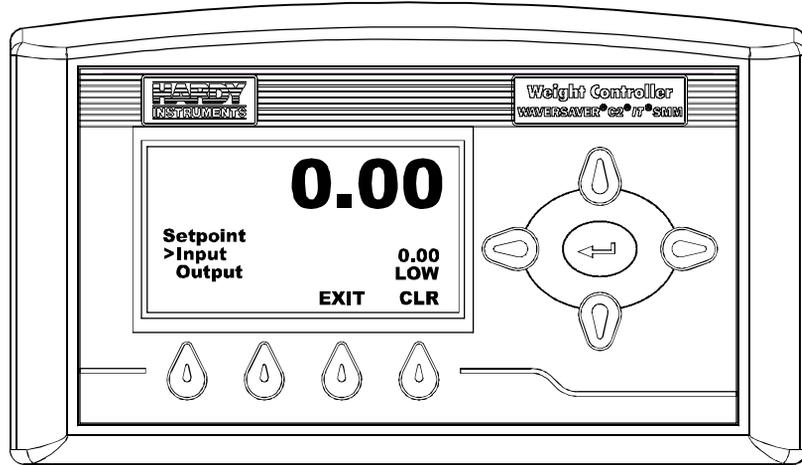

FIG. 64 SETPOINT MENU/READING INPUT
Step 26. Press the down arrow button until the cursor is in front of “Input”. (See Fig. 64)